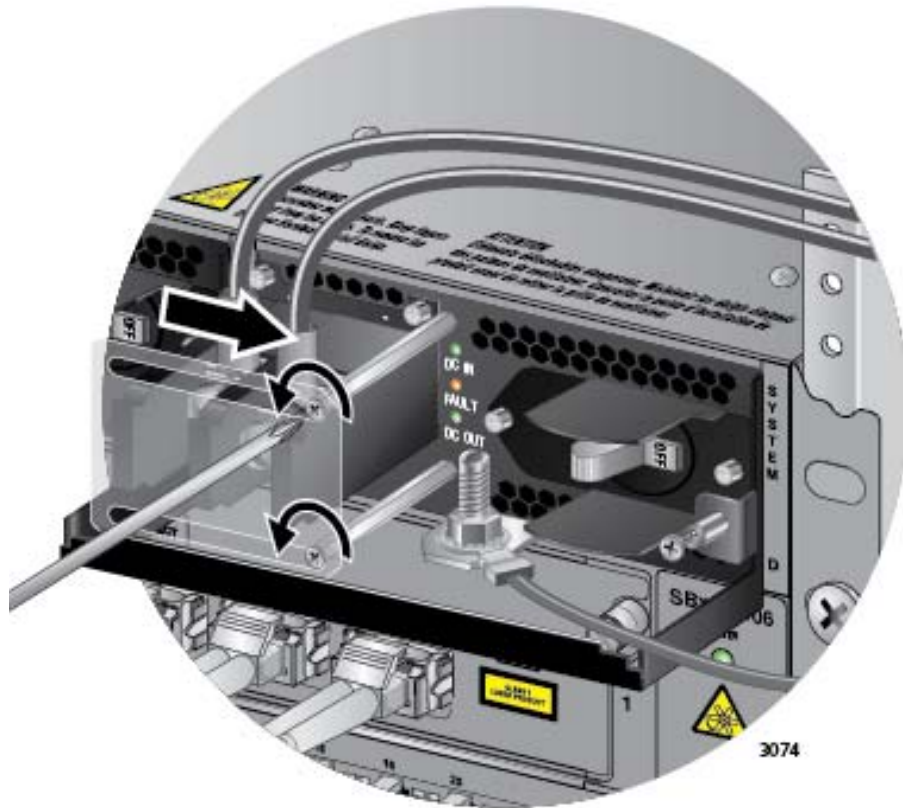

Figure 172. Opening the Plastic Window on the Terminal Block
4. Use a #1 screwdriver to loosen the two screws that secure the plastic cover over the terminal block and slide the cover to the right. You may need to slightly lift the locking handle to access the bottom screw. Refer to Figure 172 on page 288.